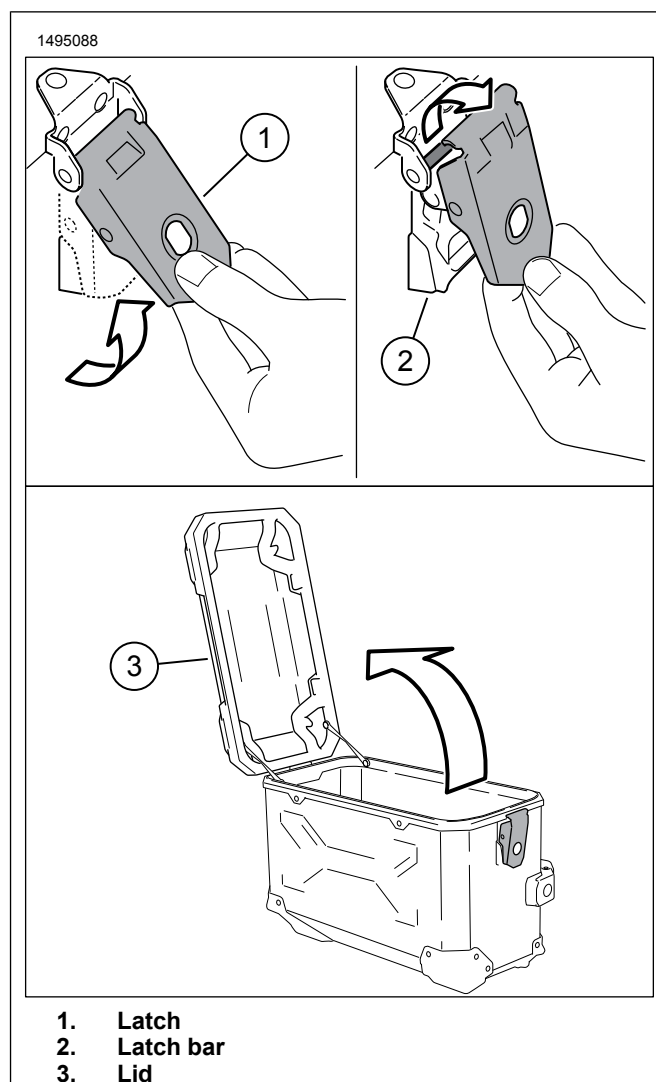

Figure 2. Opening Lid
1. See Figure 2. Pull latch (1) of lid (3) upwards.
2. Remove it from latch bar (2).
3. Open lid (3).